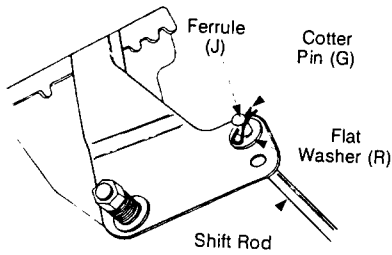

FIGURE 12A - Shift rod assembly for models without steerable option.
- Place the shift lever in the fastest forward position. Push the shift rod down sharply, as far as it will go, to put the drive into the fastest forward position. Thread the ferrule in or out on the shift rod as necessary until the ferrule lines up with the upper hole in the shift lever. Insert the ferrule into upper hole in shift lever, see figures 12A and 12B. Secure with flat washer (R) and internal cotter pin (G).